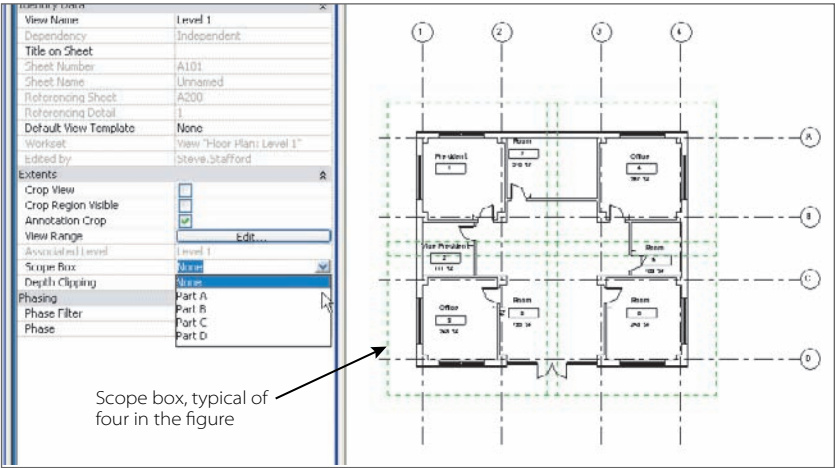

Figure 5.33
**Associated Level** Associated Level is a read-only setting (you can't change it—sorry!), as shown in Figure 5.33. Each plan-oriented view type is forever associated with a specific level. We occasionally see a user trying to create a new level by duplicating a floor plan view and just renaming it, like 6th Floor. Unfortunately for them and their team, they end up with a view with a nice name that is still associated with a different level, and confusion ensues. Just keep in mind that you can quickly check this setting for any view to confirm it is being used as intended.